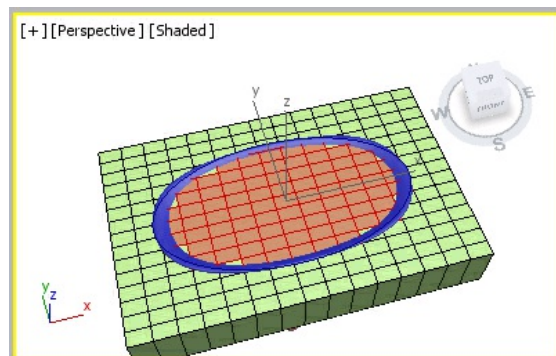

Figure 10-73 The inner polygons selected to be deleted
4. Now, select the inner polygons of *washbasin slab*, as shown in Figure 10-73. Next, delete them, refer to Figure 10-74.